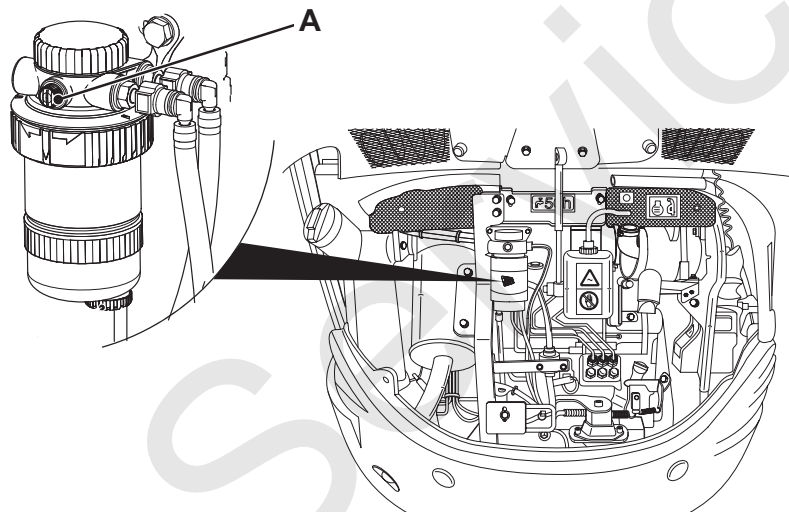

Fig 93.
- 2 To bleed air from the filter, slacken bleed screw **A**. Switch ignition to ON position (This will start the electric fuel pump). ⇒ Fig 93. \(□ 239\).